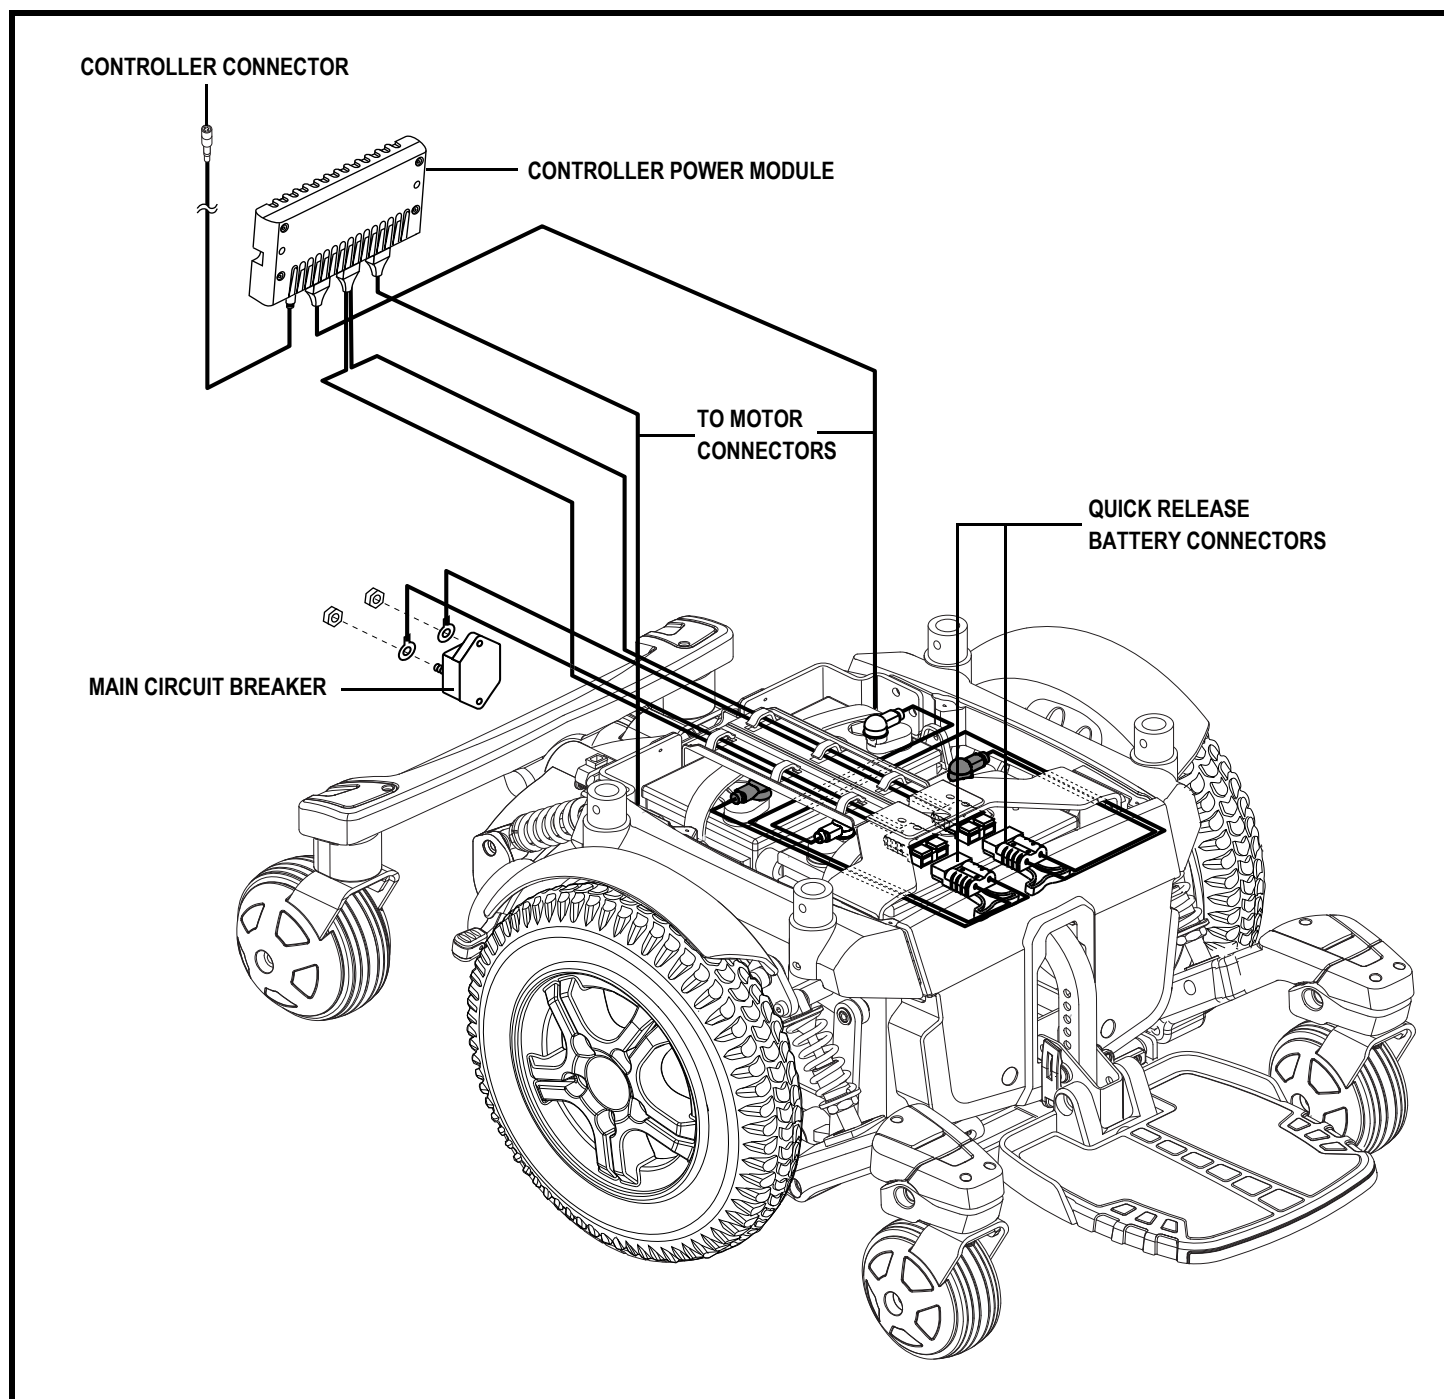

Figure 7. Quantum 6000 Series Electrical Components
The electrical components consist of the controller assembly, the batteries, and the motors. The batteries, motors, and controller power module (if equipped) are located on the power base assembly. The controller is located on the seat assembly. Connectivity between the controller and the motors, batteries, and the battery charger is provided by one or more wiring harnesses. **See figure 7.**
6. Plug the controller connector into the power base. See figure 7.
4. Disconnect the controller connector(s) from the power base. **See figure 7.**